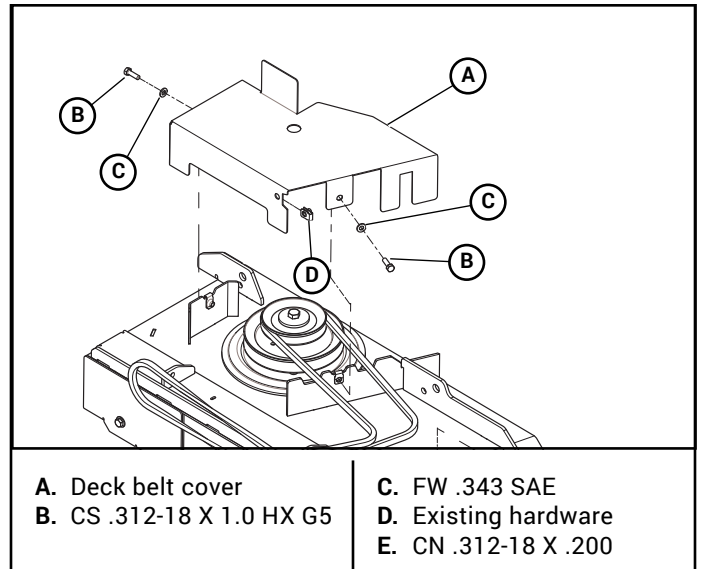
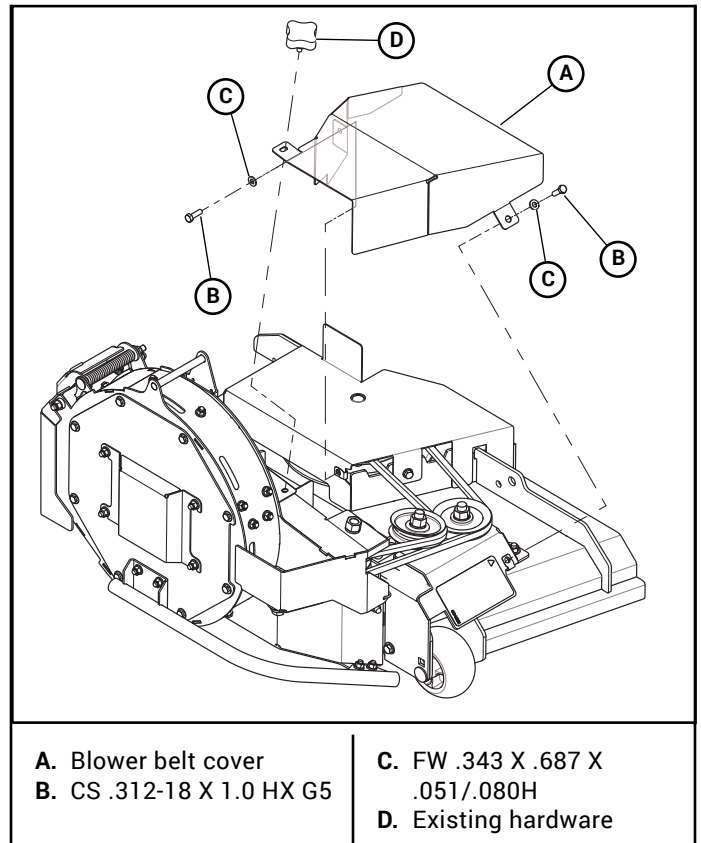

Figure 3-27
Figure 3-28
16. Attach the clip nuts to the deck belt cover. Figure 3-27
17. Attach the deck belt cover and the blower belt cover. Figure 3-27 & Figure 3-28